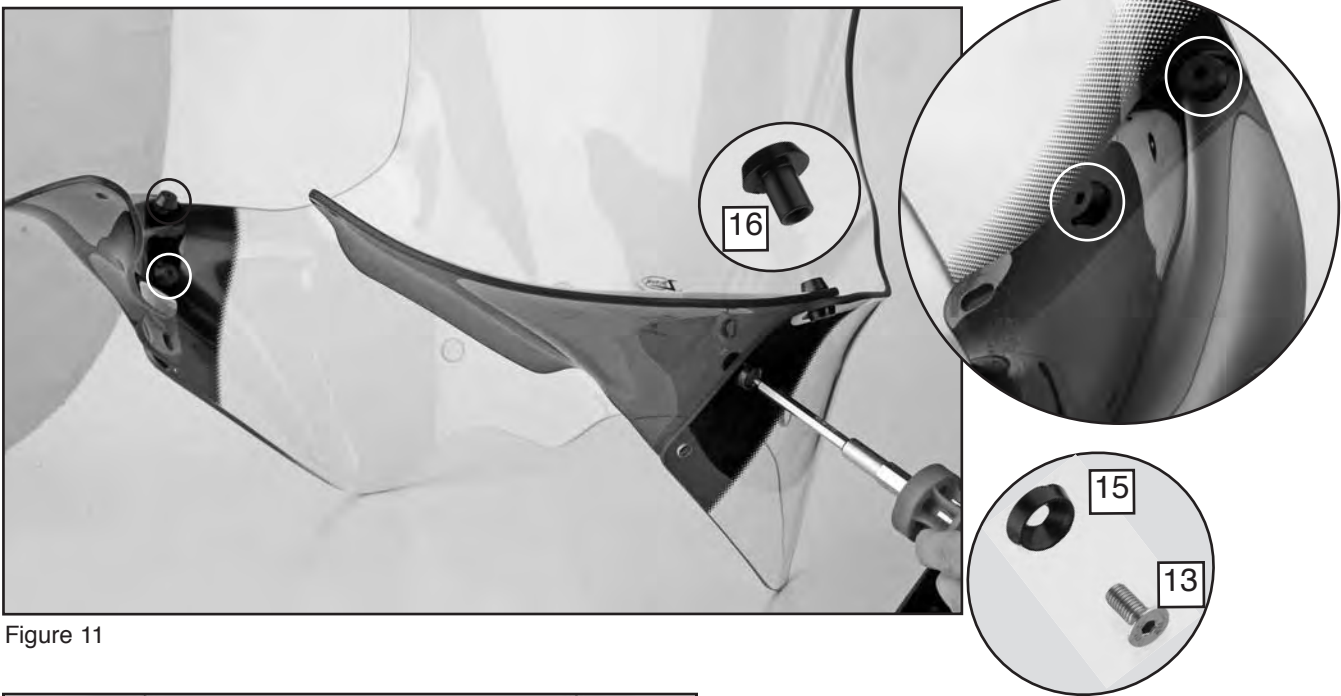

Figure 11
5. Install the Right Side Deflector at the **top two** holes as shown in figure 11. **Tighten fully.** **Figure 11 (5mm Hex Wrench)**
6. Repeat procedure for Left Side Deflector. **Figure 11 (5mm Hex Wrench)**